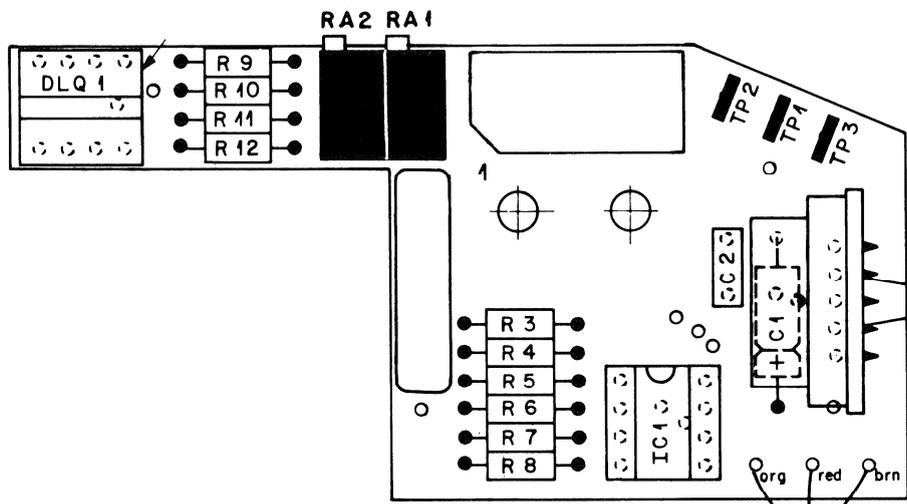

Fig. 14 Cue sensor board 1.820.765
- Connect the oscilloscope to TP1 or TP2, GND to TP3 of the CUE SENSOR BOARD 1.820.765, Fig. 14.